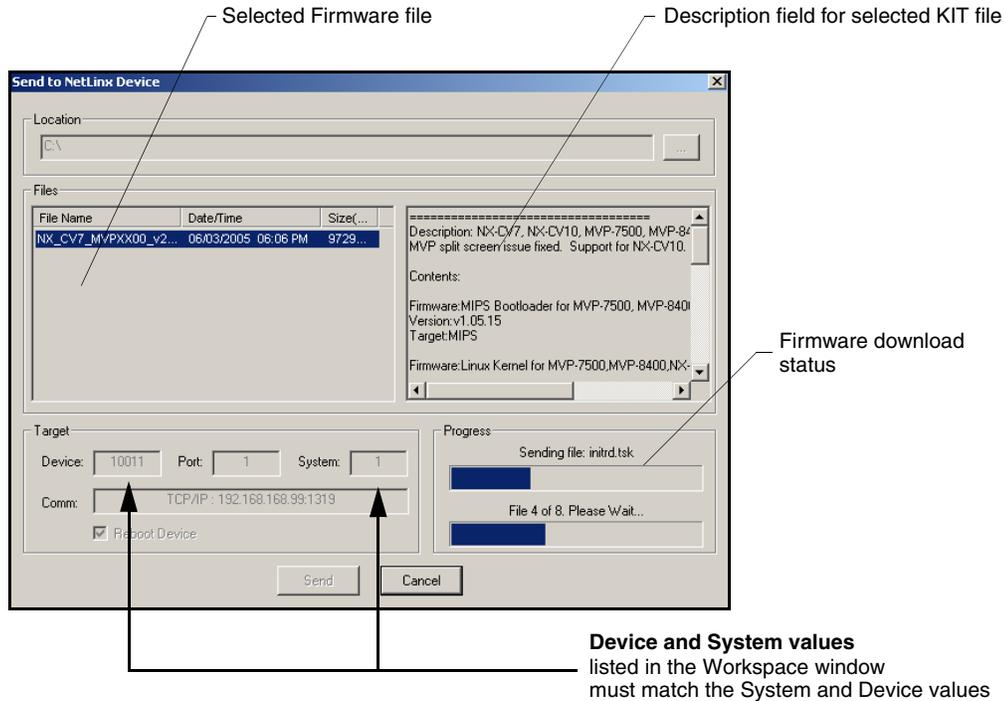

FIG. 75 Send to NetLinux Device dialog (showing Modero firmware update via IP)
7. Select **Tools > Firmware Transfers > Send to NetLinX Device** from the Main menu to open the Send to NetLinX Device dialog (FIG. 75). Verify the panel's System and Device number values match those values listed within the System folder in the **OnLine Tree** tab of the Workspace window.
8. Select the panel's KIT file from the **Files** section (FIG. 75).
11. Click **Send** to begin the transfer. The file transfer progress is indicated on the bottom-right of the dialog (FIG. 75).